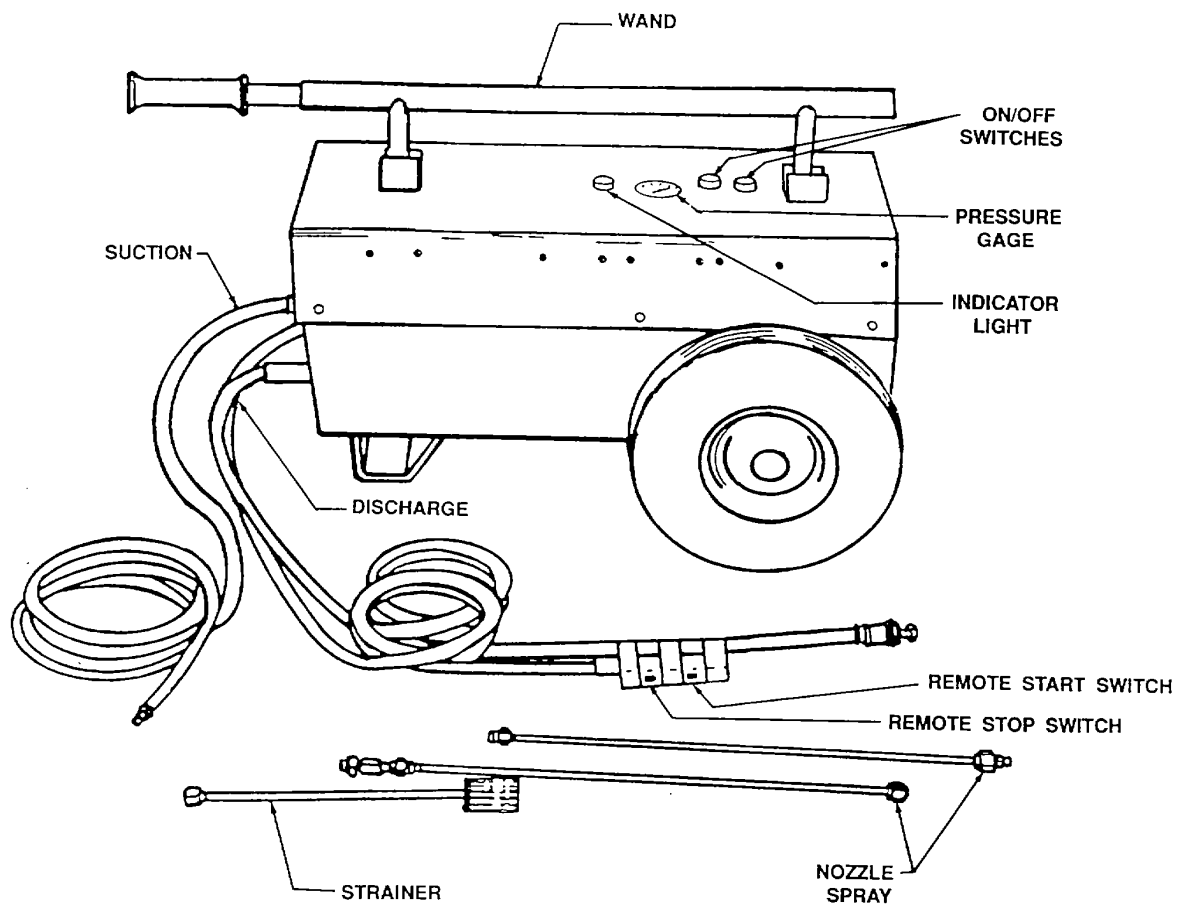

Figure 9-22. Universal Wash Unit
- (6) *Maintenance.* Consult the applicable maintenance manual for preventive and scheduled maintenance requirements.
- o. *Universal Wash Unit.* The universal wash unit shown in figure 9-22, is used for aircraft cleaning. The wash unit has two wheels and a single on which the unit is supported and moved about.